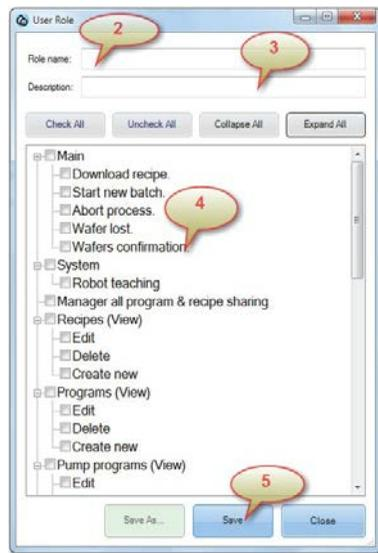

FIGURE 4-16: Creating and defining a user role
As illustrated in Figure 4-16, the User Management page has two panels: left and right. The left panel lists all available user accounts, showing the user name and role of each account, whereas the right panel provides a brief description of the roles and their privileges.
1. Under User roles panel, click the New button. The User Role dialog box opens. See Figure 4-16.
1. From the User roles panel (Figure 4-16), highlight the user role of interest.